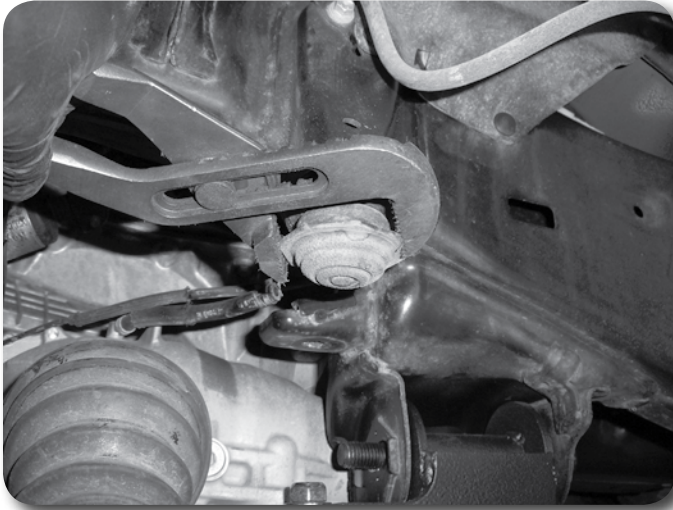

Figure 35
45. With the lower control arms installed, go back and torque the (3) rear differential mount bolts to 90 ft-lbs (two at the crossmember, one into the differential).
47. Locate and remove the rear factory rubber bump stops from the frame **Figure 35**. These are threaded into the frame and can be removed with large channel-lock pliers. Discard bump stops.